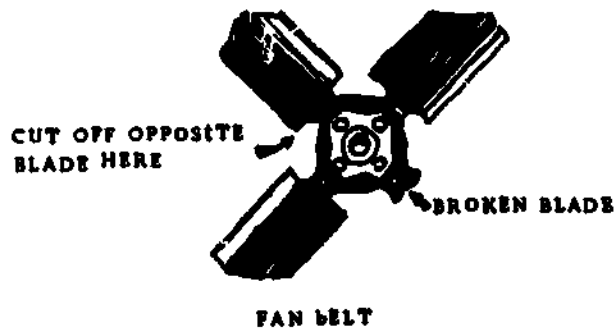

Fig 3-1. Fan blades.
b. Broken blade. If a vehicle must be operated with a fan with one blade broken, cut or break off the blade on the opposite side as illustrated in figure 3-1. The vehicle can then be run as long as the engine does not overheat.